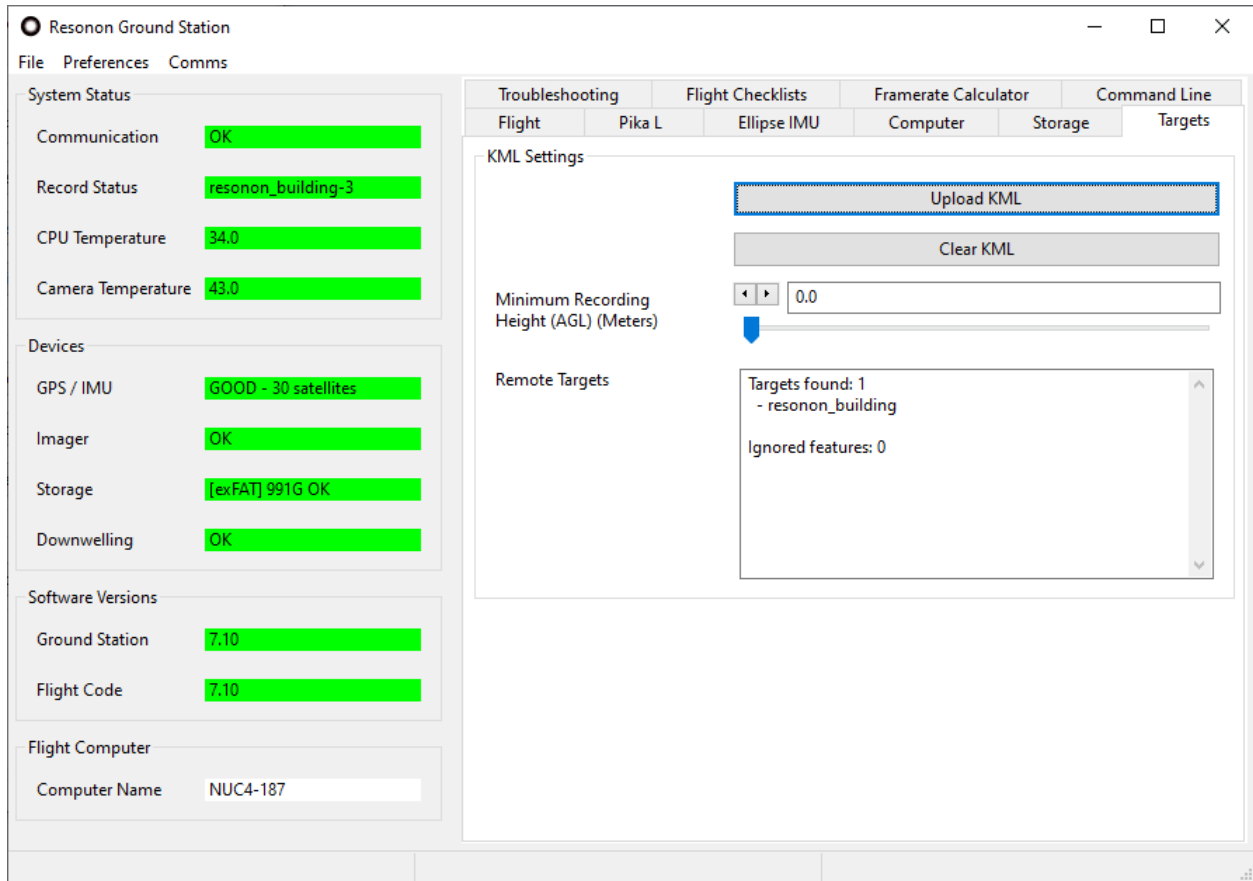

Fig. 3.17: The Targets Tab
The *Targets Tab* (Fig. 3.17) allows the operator to create, save, and upload target regions to the flight computer. These target regions define the areas over which the system will record data. When the aircraft enters a defined target area and is above the minimum height requirement, data recording is automatically started and ends when the aircraft leaves the target area. When data is recorded in a target region the name of the target region is reflected in the data folder name.
**Note:** In Fig. 3.17, the system's *Record Status* has changed from *Not Recording* to *resonon\_building-3*, indicating the system is within the target KML file (*resonon\_building.kml*) and is currently recording the third datacube from within that target area.
6. Upload the KML target file using to the flight computer using the **ResononGroundStation Upload KML** button shown in Fig. 3.17. A file dialog will be presented allowing you to select your saved KML file.
7. Examine the *Remote Targets* section of the *Targets Tab* (Fig. 3.17). Verify each target you defined is listed under *Targets found*. If a target is not shown, or if a target is listed under *Ignored features*, something is wrong with the uploaded target file. Fix it in **Google Earth** and try again. Features may be ignored if they were created as paths or points rather than polygons, for example.